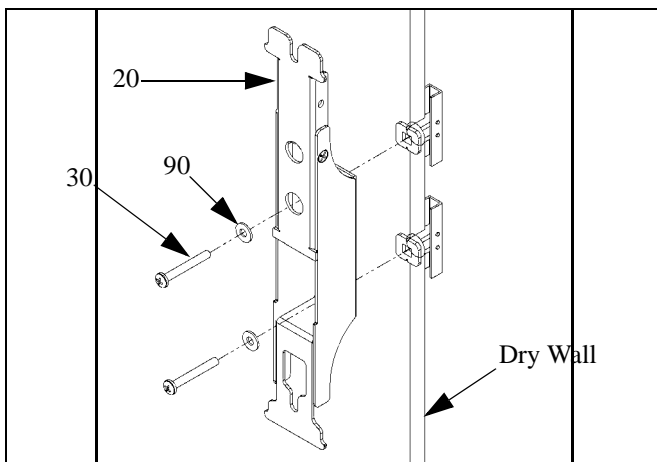

Figure 8:
8. Using two #10 Phillips head screws (30) and two flat washers (90), secure the speaker wall bracket to the wall (see Figure 8).
9. Repeat the procedure to install the second wall bracket (20).